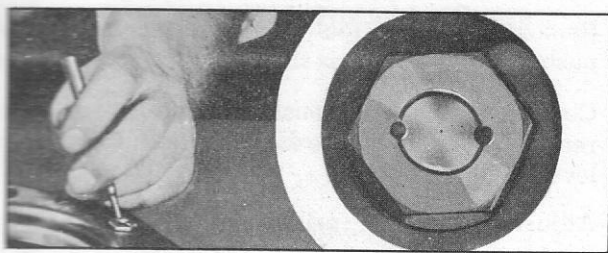

Fig. 22—Staking Nut
6. Stake the nuts with a dull punch as shown in Figure 22 driving metal from the nut into the grooves in the eyebolt to provide a secure lock.